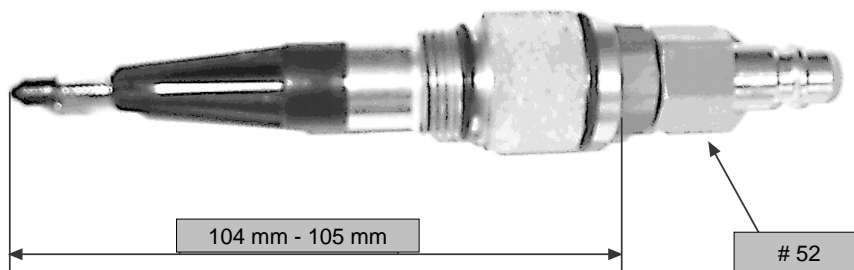

Figure5: Air Converter Length
1. Use an Allen key (4mm) to loosen the locking screw of the pressure transducer (1/49).
3. Measure the length of the air converter according to figure 5.